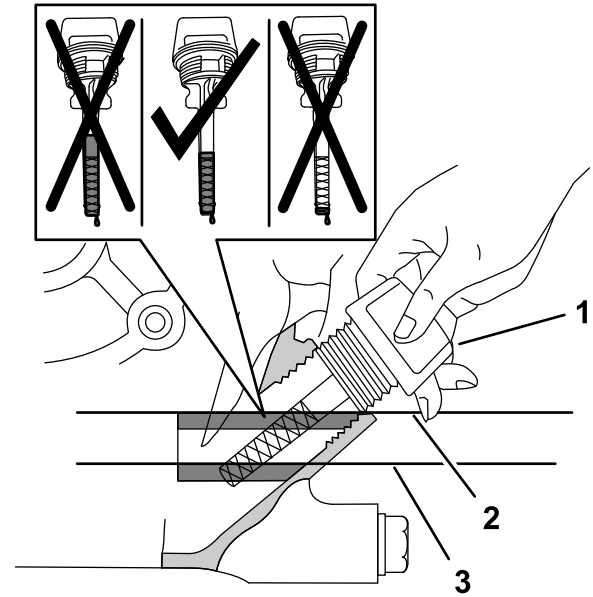

Figure 76
5. Insert the dipstick from the engine as shown in Figure 76.
6. Remove the dipstick from the filler neck and look at the oil level in the dipstick (Figure 76).
Note: The engine oil level must cover the hatch-marked area of the dipstick (Figure 76).